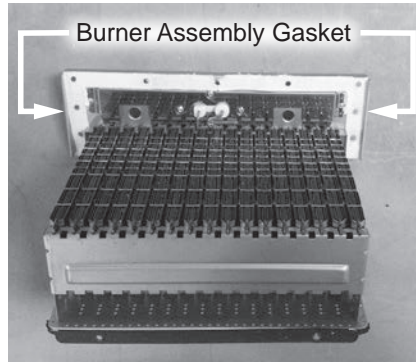

Figure 161 - Replacing burner assembly gasket
**57** Use a plastic scraper to gently scrape old insulation gasket clean from primary heat exchanger and burner assembly. Confirm assembly surfaces are free of any debris or leftover insulation. Install burner assembly gasket to burner assembly. See Figure 161.